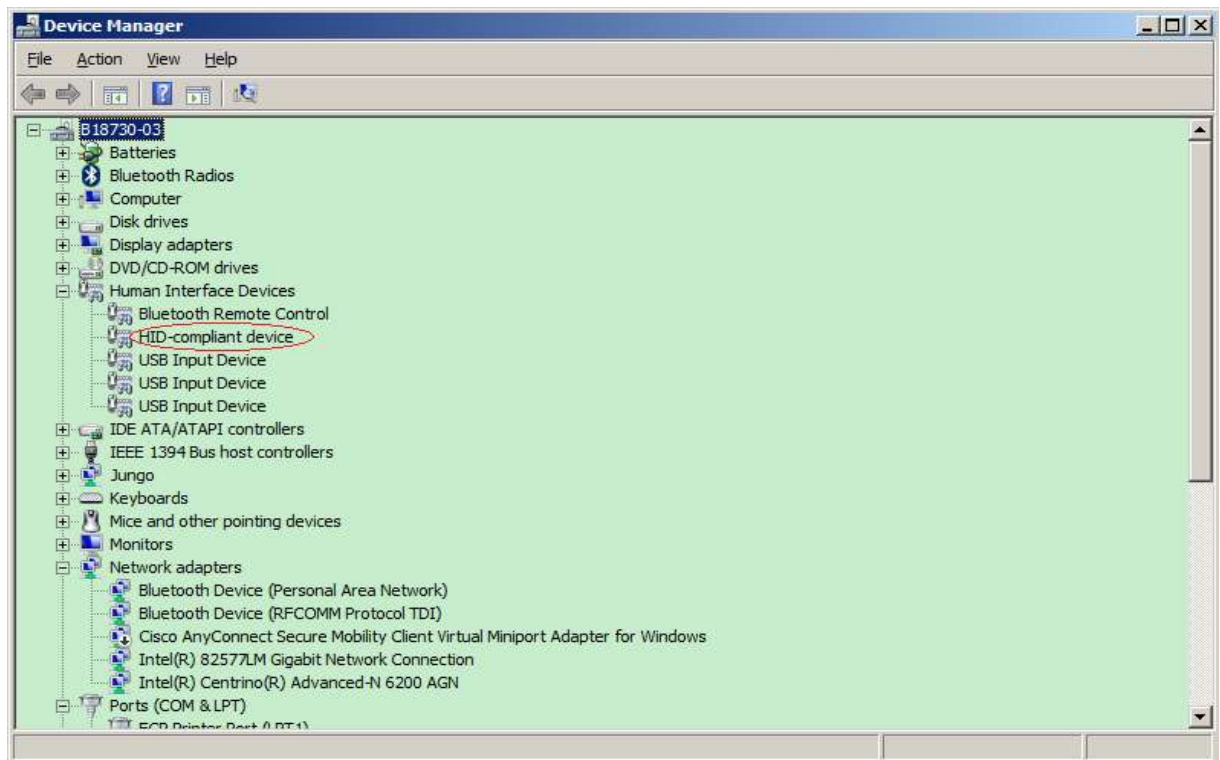

Figure 3-1 HID compliant device
- c. Connect a USB cable from the host computer to the USB OTG port on the MX8MSCALE target board. A “HID-compliant device” or “USB Input Device” will be shown in the Device Manager as Figure 3-1: